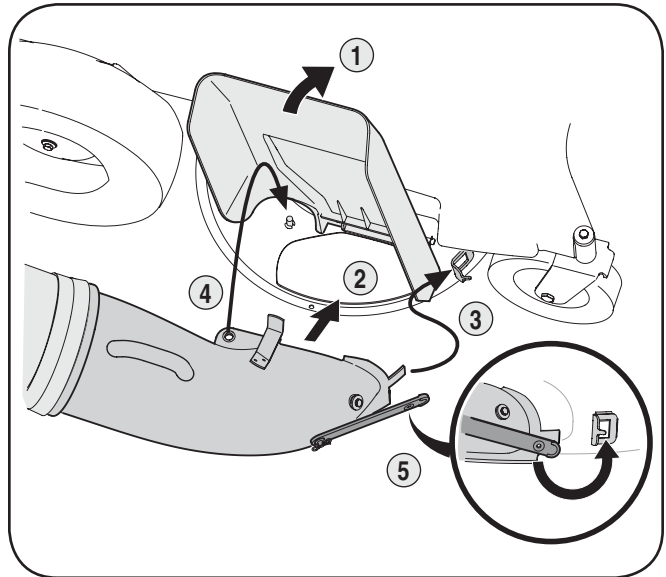

Figure 9
1. Insert rod hanger [D] into the opening in the rod assembly [C]. See Fig. 9.
2. Slide the tabs on the grass bag over the bag hanger rod. See Fig. 9.
1. Lift the chute deflector on the deck back towards engine. See Fig. 9.
2. Place the bottom lip of the chute/grass bag assembly into the lip on the deck. See Fig. 9.
3. Place the tab of the chute/grass bag assembly into the bracket on the deck. See Fig. 9.
4. Lift chute/grass bag to position hole in chute over stud on the deck. The bracket on the chute will hold the chute deflector into an upright position. See Fig. 9.
5. Pull the strap over the tab on the deck. See Fig. 9.